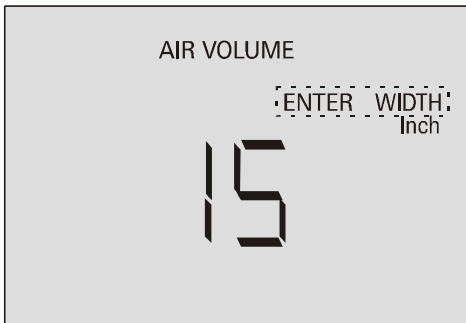

Fig.5
- 1 Press the MODE button - AIR VOLUME and ENTER WIDTH (flashing) will be displayed on LCD.* (fig 5)